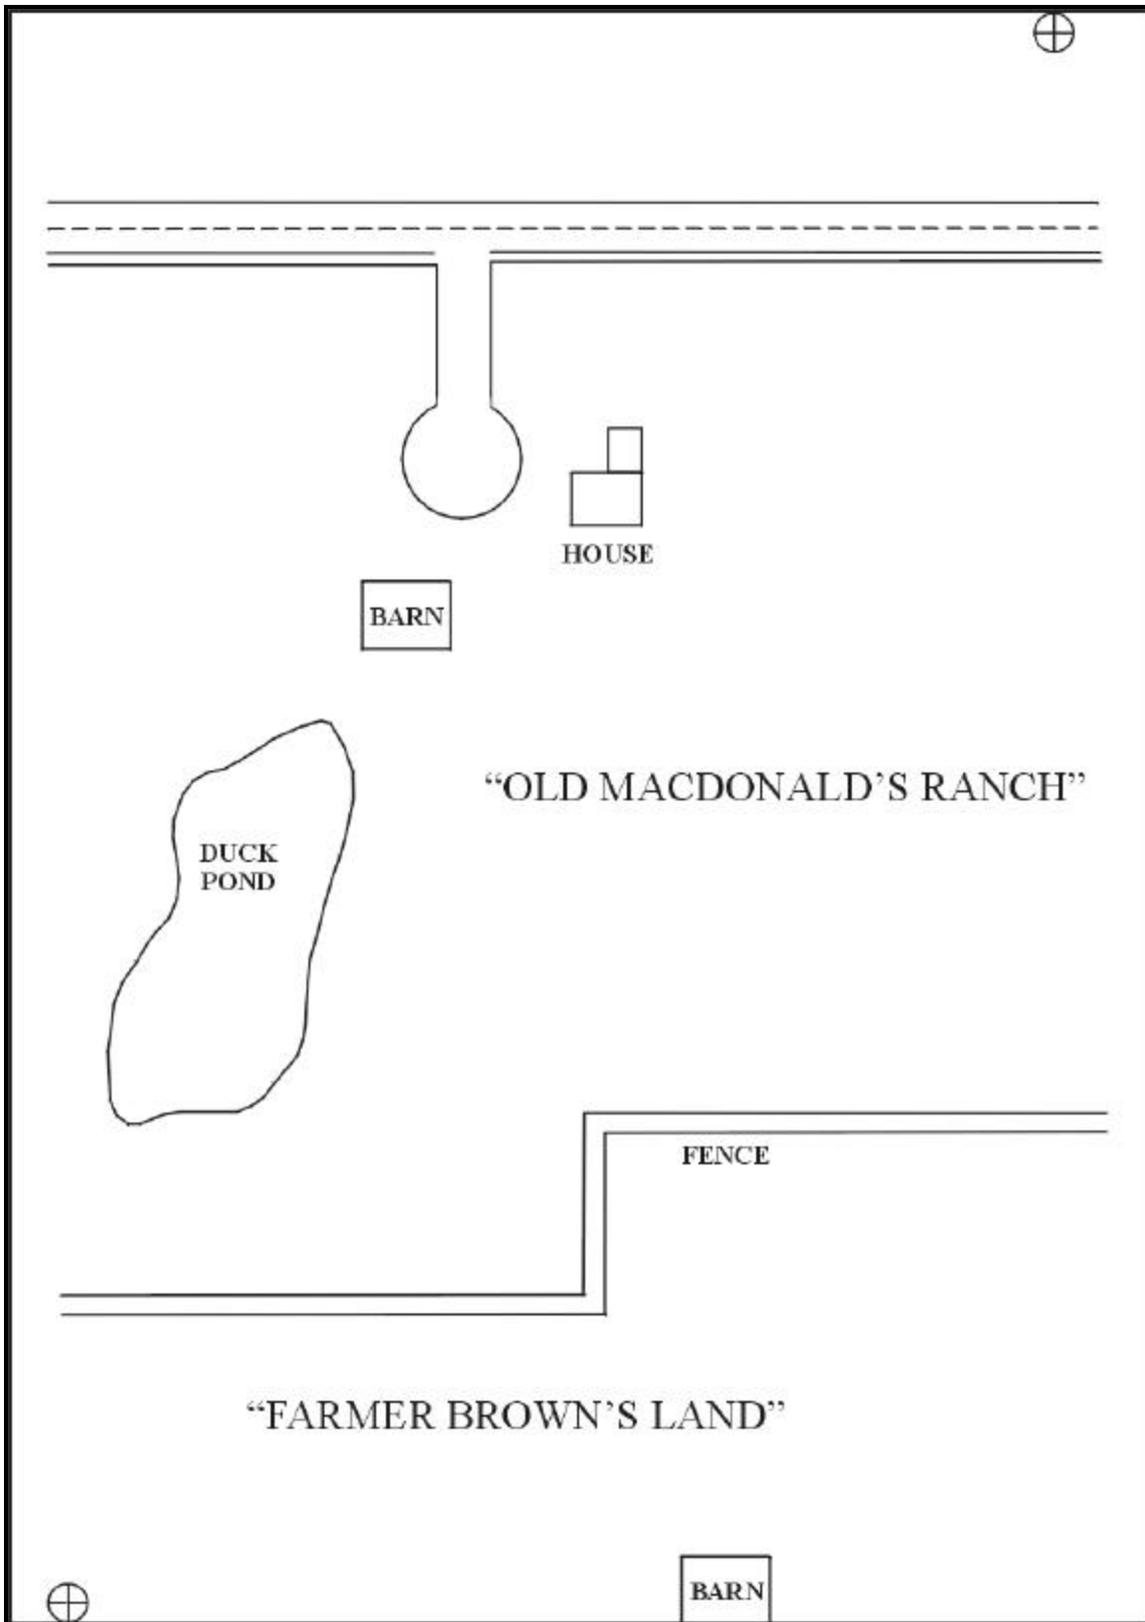

Figure 5.3
- (2) Superimpose Figure 5.3 on Figure 5.2 and determine who owns the most prospective land. Which farmer would you be most eager to talk to about the possibility of obtaining petroleum rights? Where would you drill?
- (3) Study a topographic map of an area that is very familiar to you (your own community perhaps). What is the major difference between this map and the type of map you have just contoured?